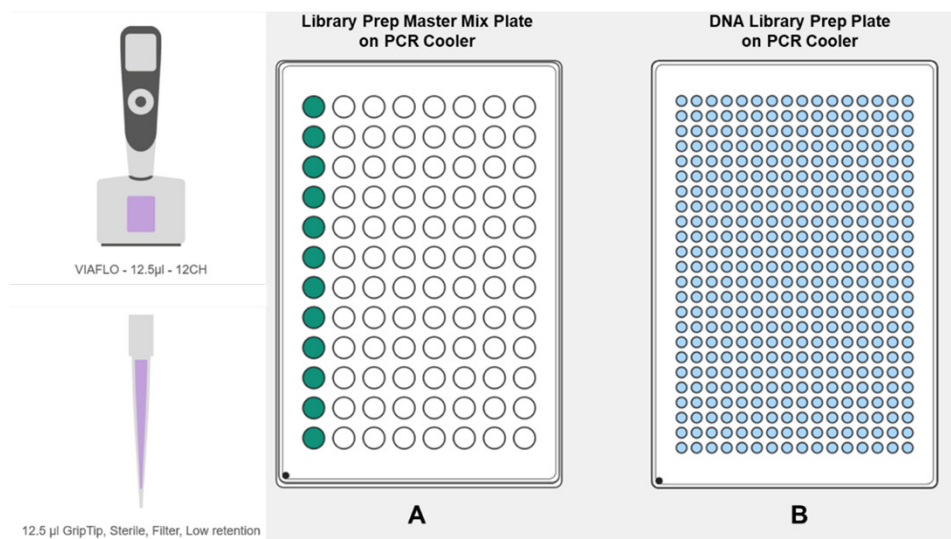

Figure 21: RO384_09_DNRPrp.
8. Place the cold 96-well and 384-well PCR cooling blocks onto the ASSIST PLUS deck at Positions A and B, respectively (Figure 21).
9. Place the **Library Prep Master Mix Plate** on the 96-well PCR cooling block in Position A and place the **DNA Library Prep Plate** on the 384-well PCR cooling block in Position B with position A1 of both plates in the bottom left corner, as indicated by the dot in Figure 21.